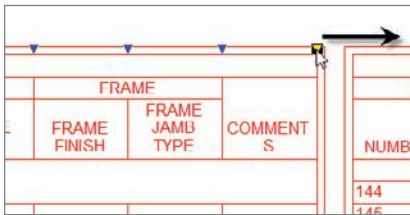

FIGURE 11.20 Pick the triangle grip to give the Comments field some more room.
9. Zoom in on the top of the schedule, as shown in Figure 11.20, and select the schedule.